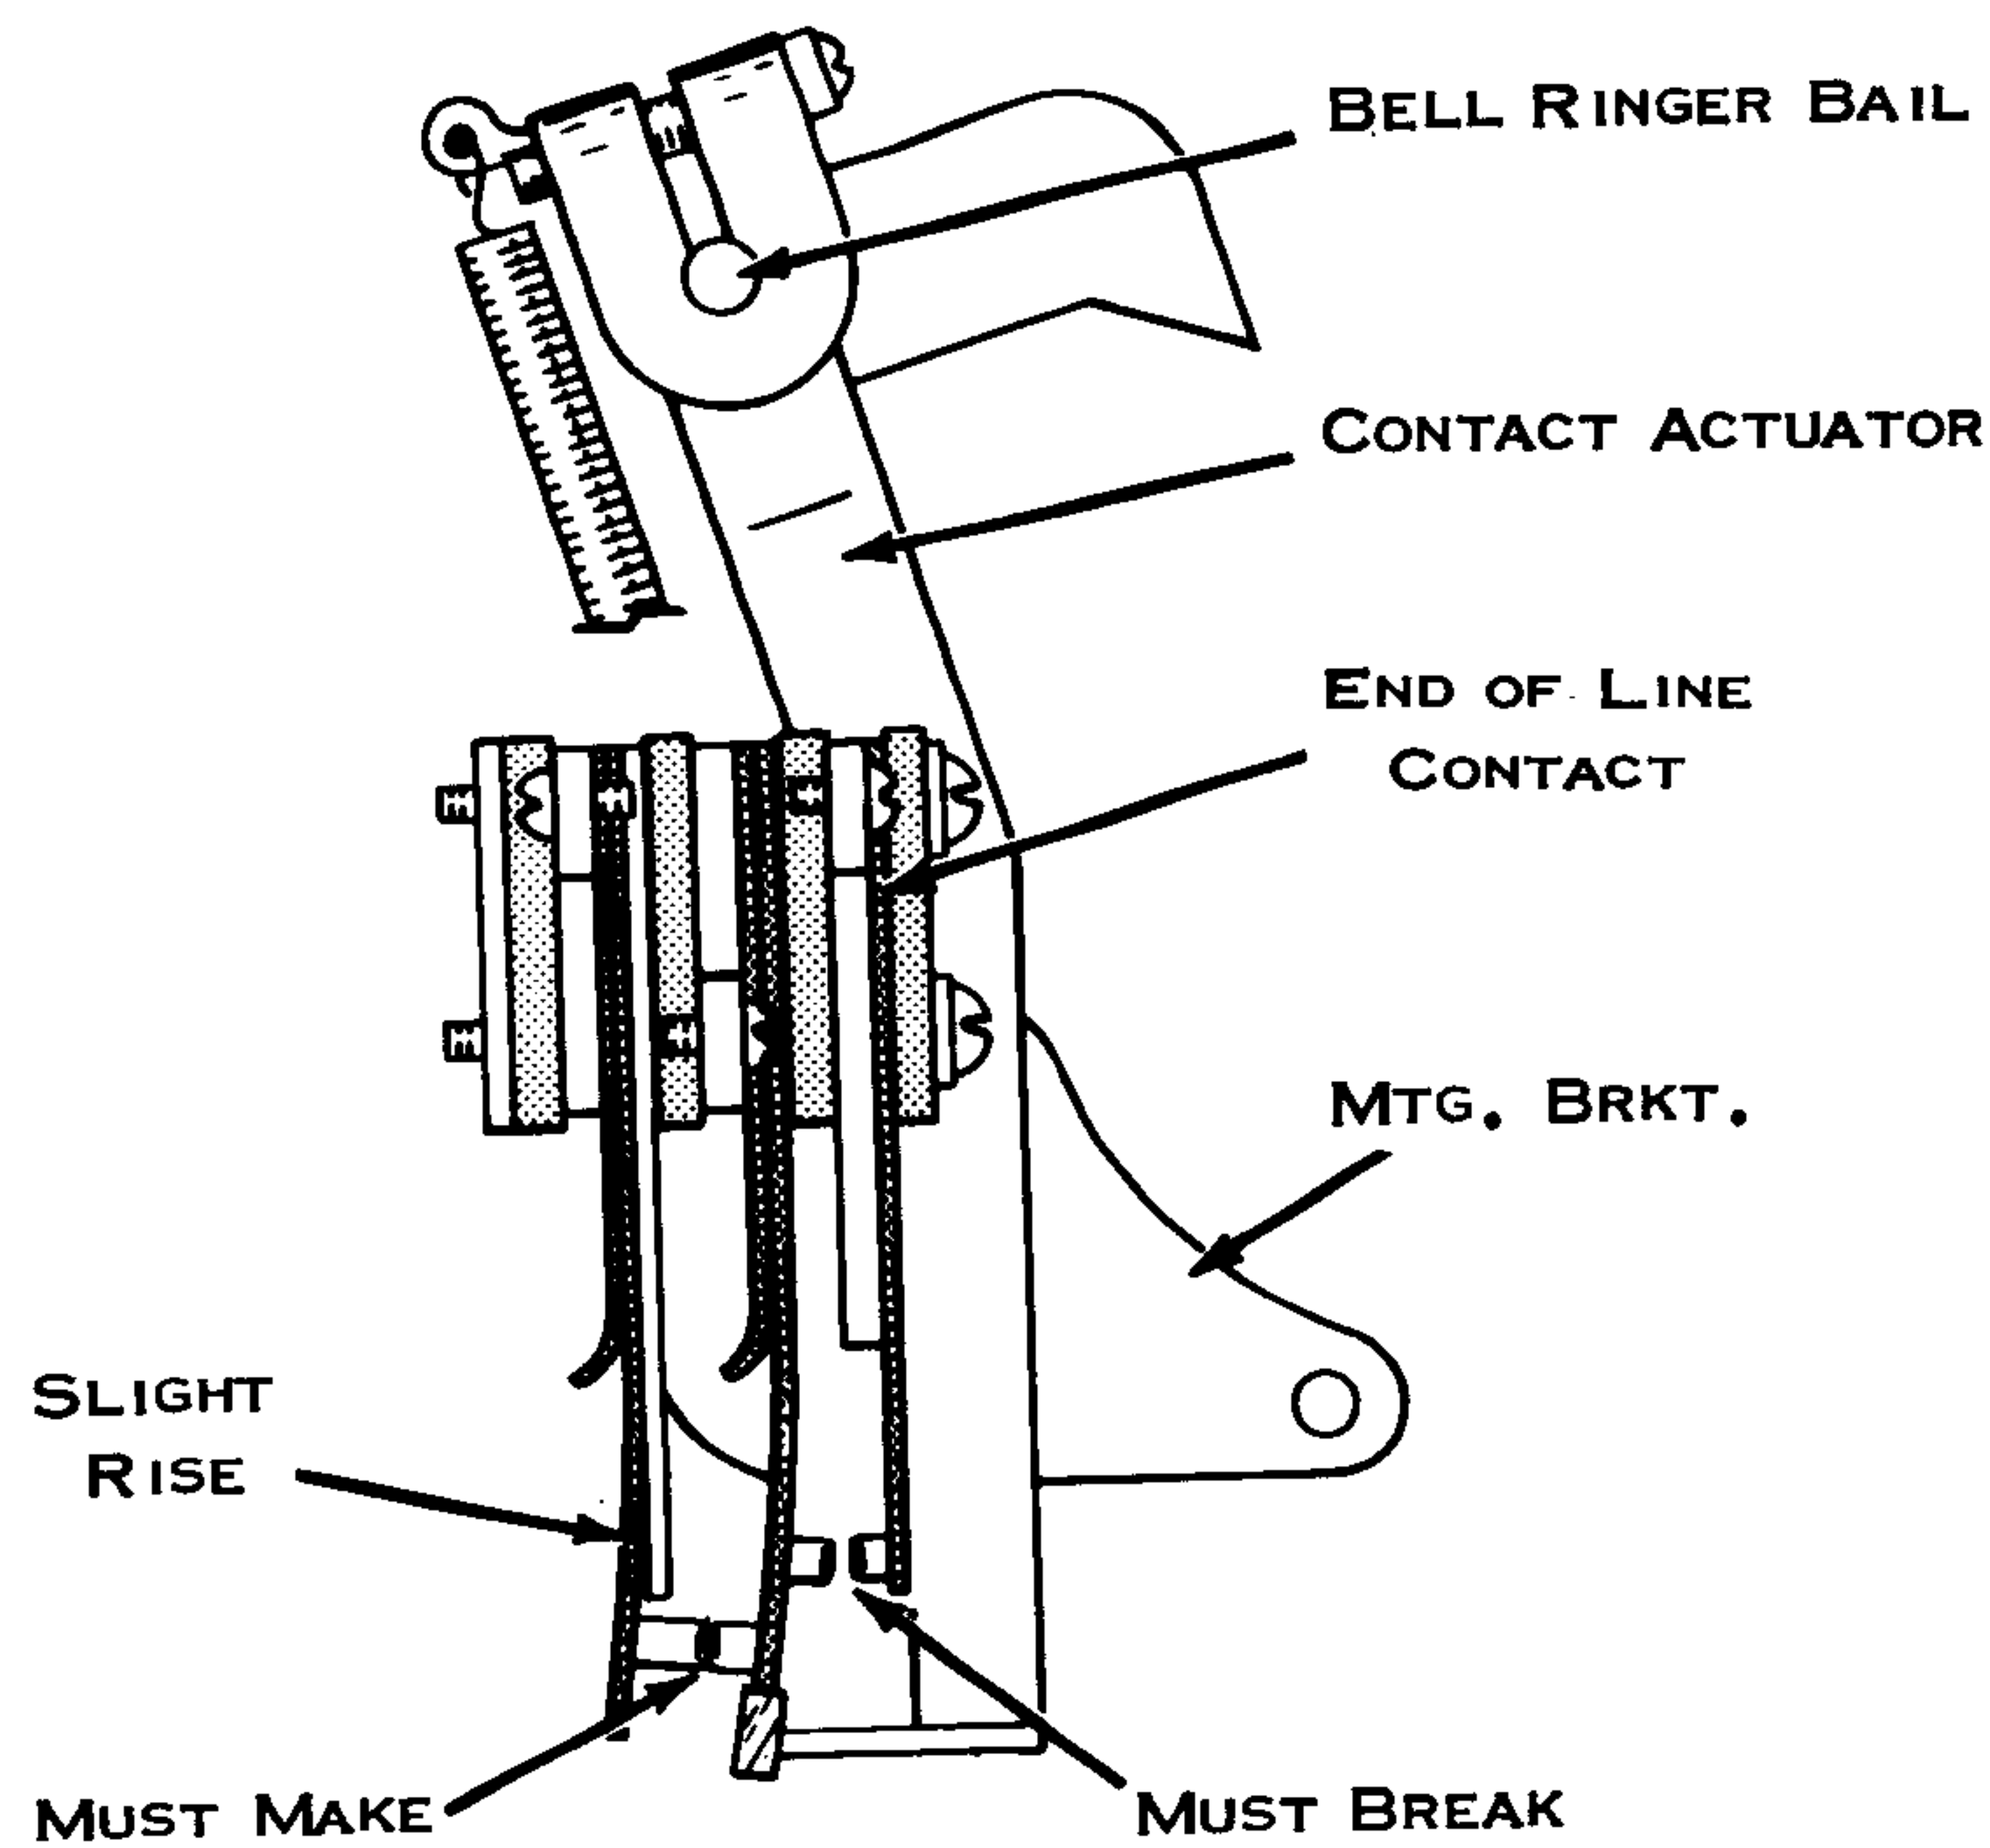

Figure 195. End Of Line Contact Adjustment
d. As the carrier moves from the next to last to last space, check for the following conditions (Fig. 195):
- (1) The contact transfer must be complete (and without bounce) within one space.
- (2) N/C contact must break.
- (3) O/S must lift the N/O contact sufficiently to insure reliable make.